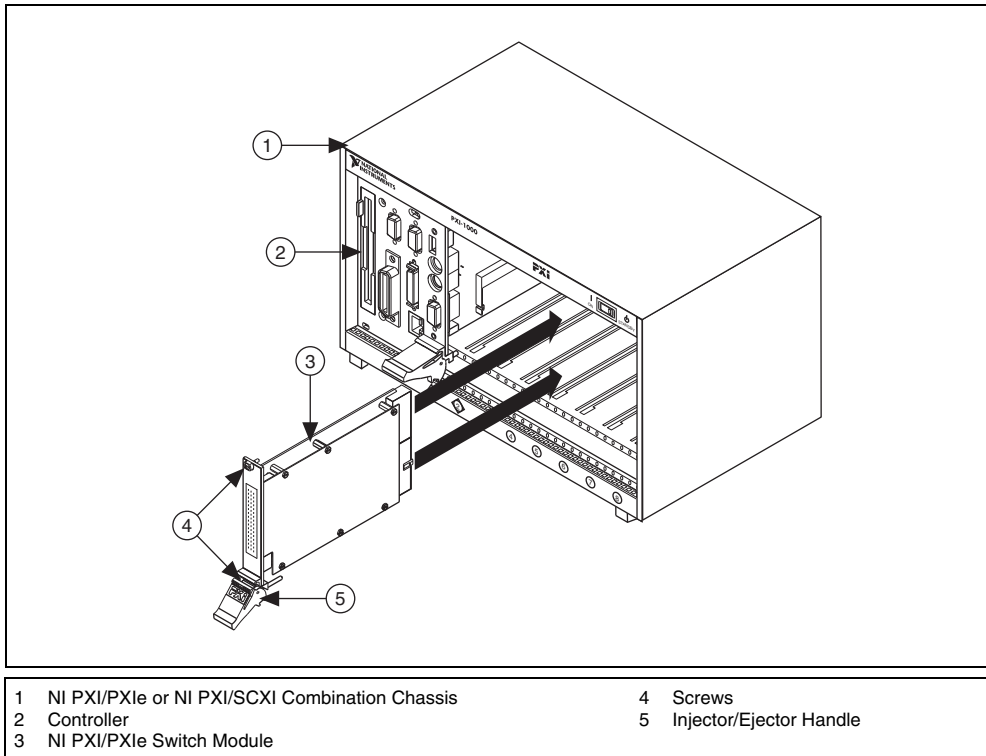

Figure 4. Installing an NI PXI/PXIe Switch Module
Refer to Figure 4 and complete the following steps to install an NI PXI/PXIe switch module.
8. Holding the device by the injector/ejector handle, slide it into the empty slot, ensuring that the card engages with the card guides in the chassis, as shown in Figure 4.